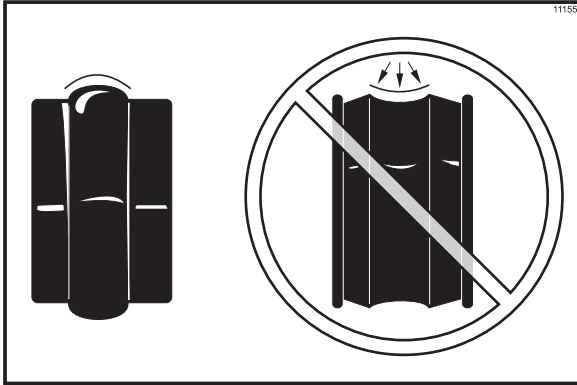

Figure 8
**Note:** To ensure that the mix does not leak out of the back of the freezing cylinder, the middle section of the boot seal should be convex or extend out from the seal. If the middle section of the boot seal is concave or extending into the middle of the seal, turn the seal inside out. (See Figure 8.)